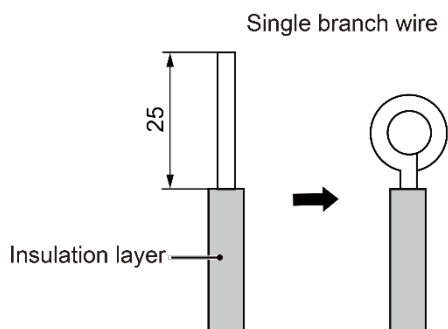

Fig.5.1.1
- (1) The connection of wire (as shown in Fig.5.1.1)